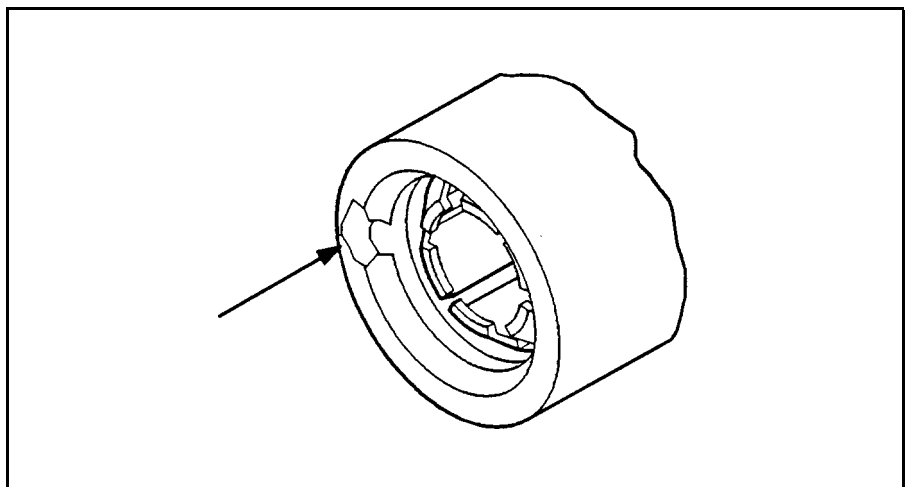

Figure 2-4. Damaged Center Conductor
- The end of the center conductor is dented or scraped near where it touches the inner contact (see Figure 2-4).